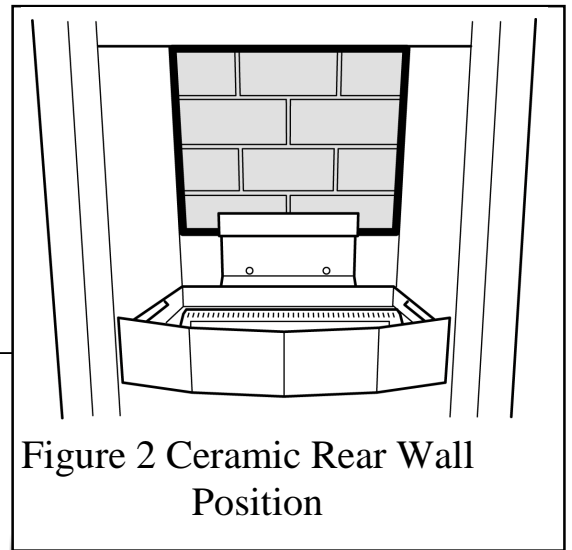

Figure 2 Ceramic Rear Wall Position
1. Fit the ceramic rear wall into the bracket at the back of the firebox. See figure 2.